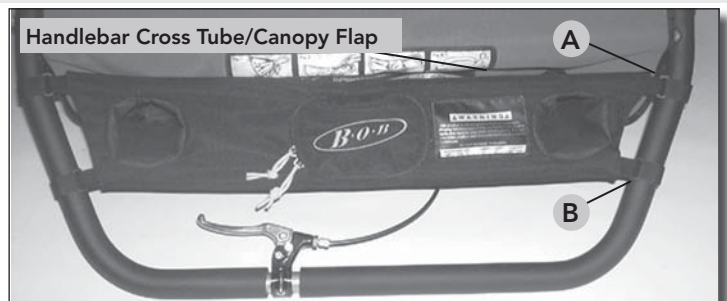

Fig 1 Console Orientation
1. Begin by orienting the Handlebar Console as shown in figure 1. The front edge of the console aligns approximately 1" behind the back of handlebar cross tube/canopy flap.
2. The Handlebar Console attaches to the stroller handlebar by 4 velcro straps. Start attaching the Handlebar Console to the handle bar with the forward right velcro strap, "A" in figure 1. The strap attaches as follows:
3. Next, attach the back right strap, "B" in figure 1. The strap attaches as follows: